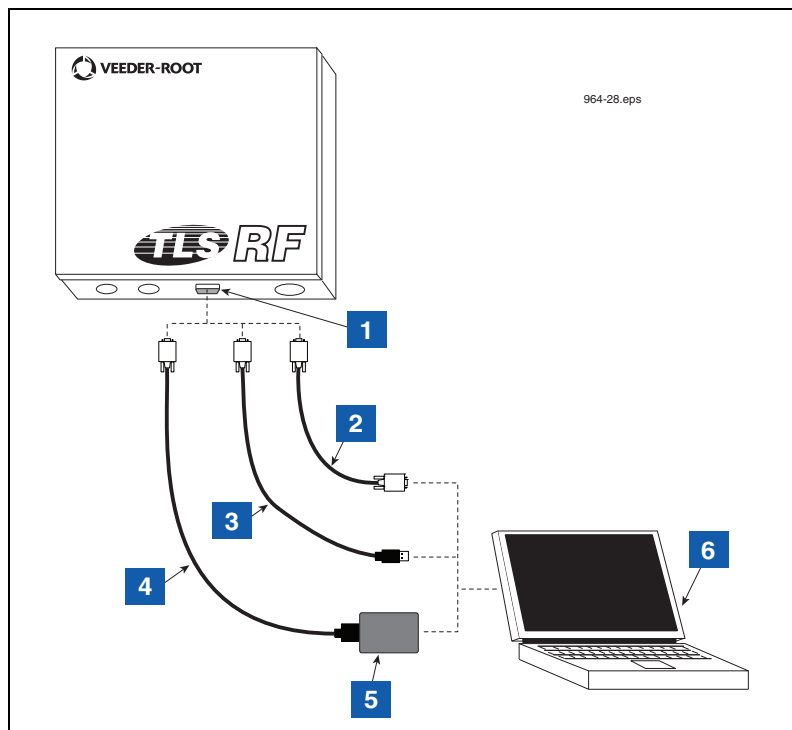

Figure 39. Laptop to TLS RF Example Connections
1. Attach your laptop to the TLS RF's RS-232 serial port (see Figure 39).
LEGEND FOR NUMBERED BOXES IN Figure 39